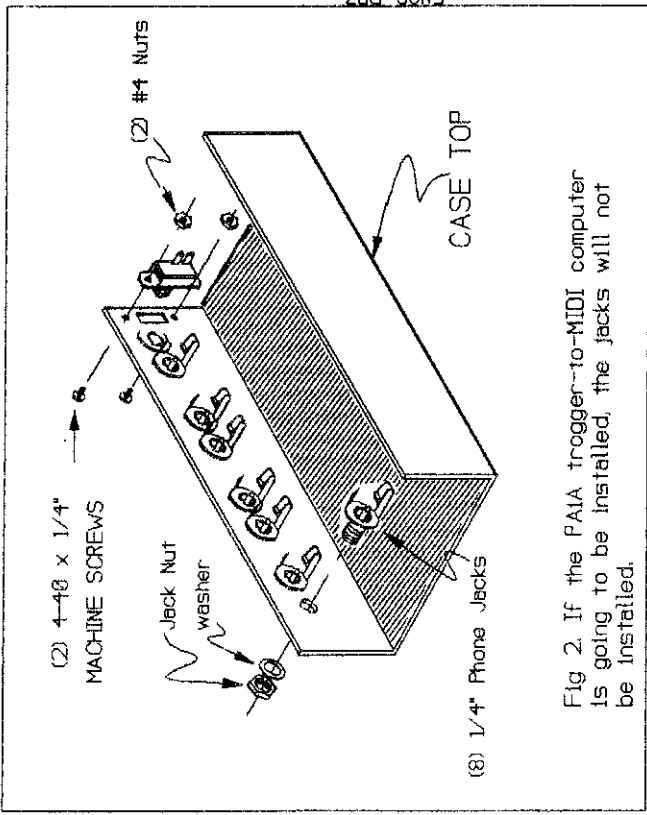

Fig 2. If the PAIA trigger-to-MIDI computer is going to be installed, the jacks will not be installed.
- () Using (2) 4-40 X 1/4" machine screws and #4 nuts, mount the power slide switch as shown in Fig 2. If there are only two solder lugs on the back of the switch, make sure that they are oriented as shown.
- () Using the jack nuts and washers provided, mount the 8 open circuit phone jacks of the rear apron of the case as shown in Figs 2. Before fully
- () Install the rubber grommet provided in the hole immediately to the right of the power Switch S1 as shown in Figs 2 & 3.